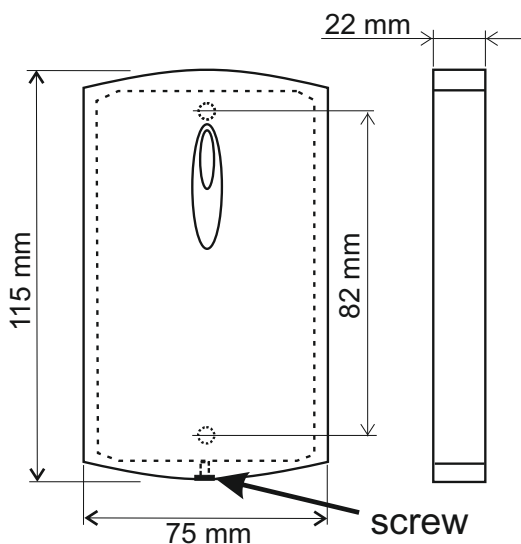

Figure 2. Device Dimensions.
- Mark and drill the holes of the same size as the mounting holes in the reader (Figure 2);